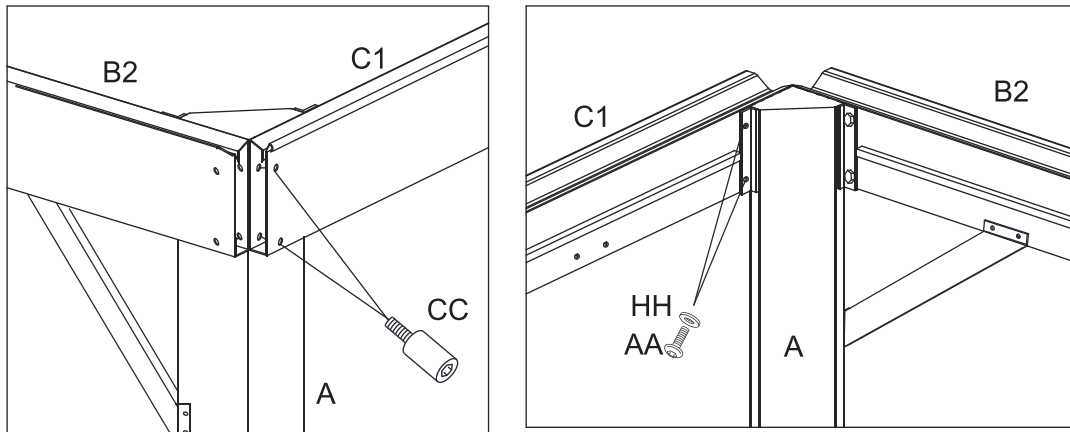

Figure 5.1
5.1. Attach Lintel (B1 ,B2and B3) to Comer Posts (A) first with Bolts (CC) then with Bolts (AA) and washer (HH) . Tighten all the Bolls, Repeat for opposite side . Tighten all Bols, See Figure 5.1